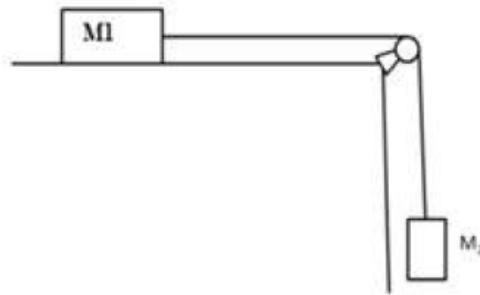

Fig. 6
- 9 Two blocks of masses  $M_1$  and  $M_2$  are connected by a string as shown in **Fig. 6.** below Assuming the coefficient of friction between block  $M_1$  and the horizontal surface to be  $\mu$  if the system is released from rest, find velocity of the block A after it has moved a distance of  $1\text{m}$  Assume  $M_1=100\text{kg}$  and  $M_2=150\text{kg}$  and  $\mu =0.20$ . 10 M